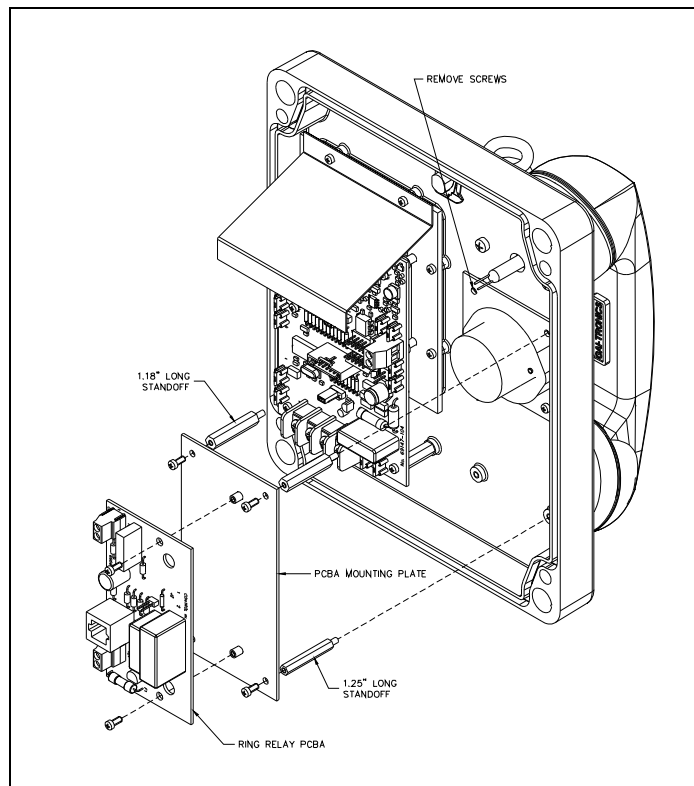

Figure 6.
3. Remove two #4-40 screws installed above ringer. See Figure 6. Replace with two #4-40 × 1.18-inches M/F standoffs (provided).